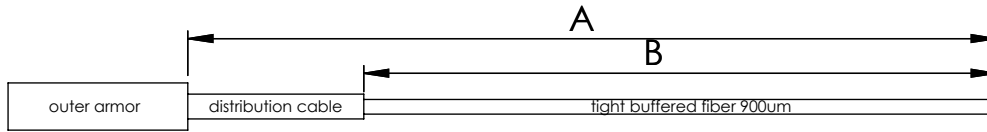

Figure 1: Cable length for Distribution cable
1. For correct fiber cable preparation, refer de figure 1 and figure 2.